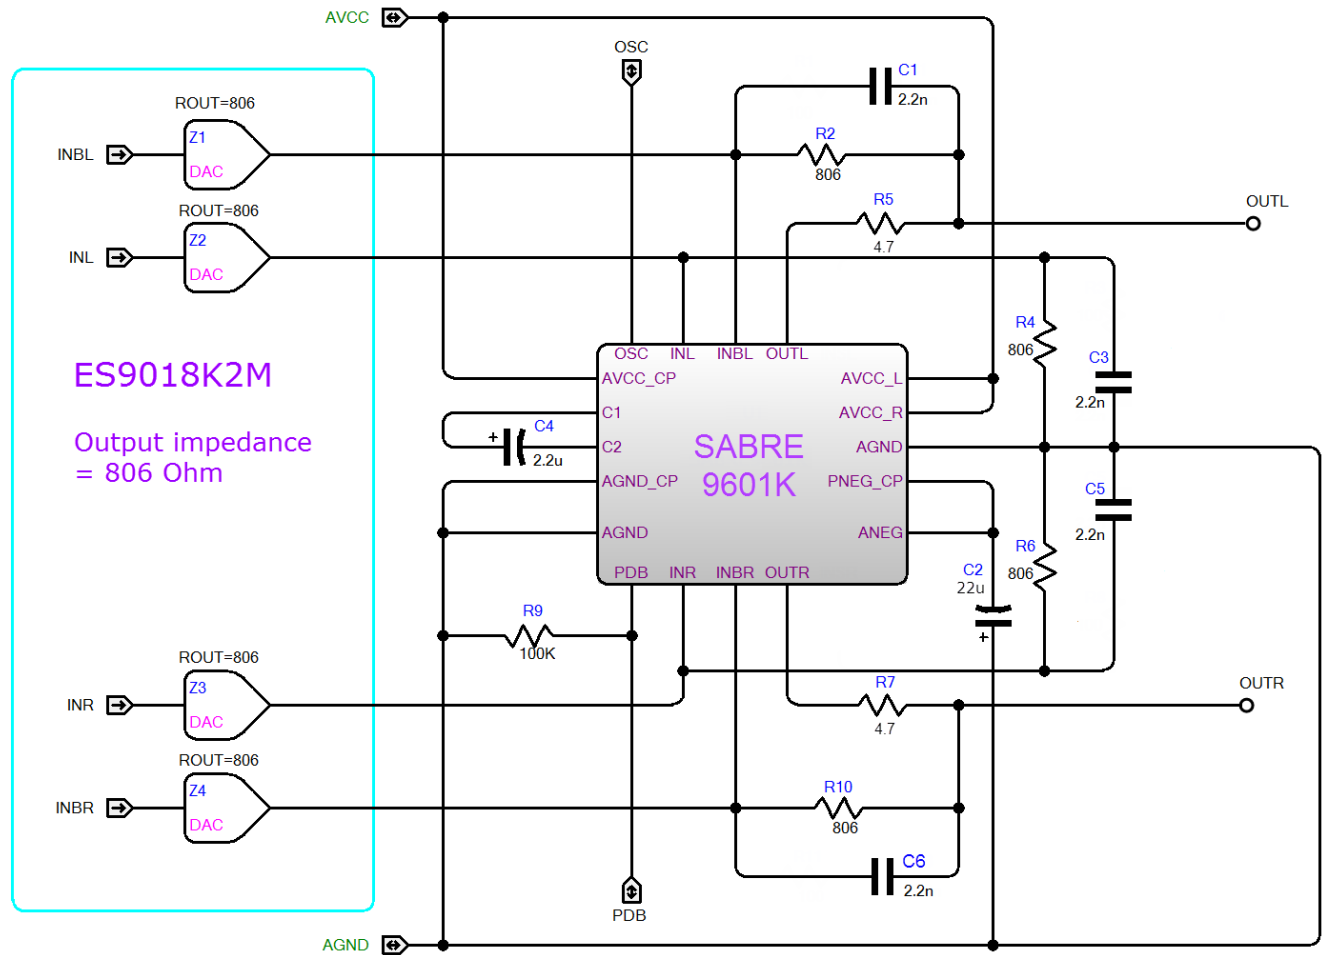

Figure 2. Schematic used to connect the ES9018K2M Dual SABRE DAC to the SABRE9601K Headphone Driver.
1. NC Pin 10 (formerly named INSR) and NC Pin 16 (formerly named INSL) retain the functions of INSR and INSL used in the application circuit in datasheets up to revision 1.2. However, for new designs we recommend using the revised application circuit of Figure 2 which minimizes the output offset voltage. All SABRE9601K devices will work in both new and old circuit designs.
Flying Capacitor (C4, see Figure 2)
The value of the flying capacitor (C4) affects the charge pump's load regulation and output resistance. A C4 value that is too small degrades the device's ability to provide sufficient current drive, which leads to a loss of output voltage. Increasing the value of C4 improves load regulation and reduces the charge-pump output resistance to an extent. With a 2.2μF flying capacitor, the on-resistance of the switches dominates. Use a low-ESR ceramic or electrolytic capacitor for C4. If an electrolytic capacitor is used the correct polarity must be observed, see Figure 2. The flying capacitor C4 can be eliminated when an external –3.3V supply is used and the internal oscillator is disabled by grounding the OSC pin.
Hold Capacitor (C2, see Figure 2)
The hold capacitor value and ESR directly affect the ripple at PNEG_CP. Use a low-ESR 22μF minimum capacitor for C2 and also choose the correct voltage rating. C2 can be a ceramic or electrolytic capacitor, if an electrolytic capacitor is used, the correct polarity must be observed, see Figure 2. Increasing the value of the hold capacitor will improve regulation but increases start-up time.
Compensation Components (see Figure 2)
Short-Circuit Protection (see Figure 2)
$T_A = 25^\circ\text{C}$, AVCC_CP = AVCC_L = AVCC_R = +3.3V, 1kHz signal, C2 = 22 μF , C4 = 2.2 μF , ANEG = PNEG (Figure 2 configuration)